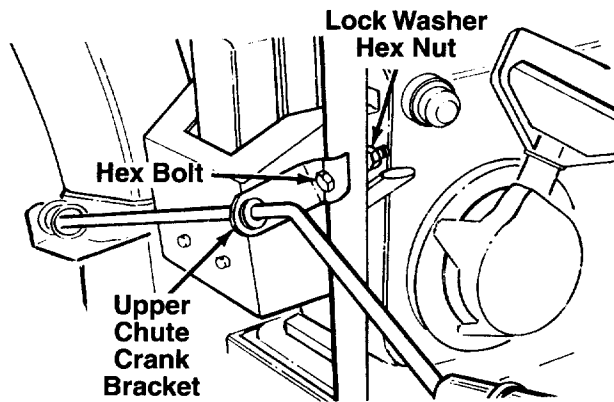

FIGURE 4.
1. Insert hex bolt 1-1/2" long through the upper chute crank bracket. See figure 4.